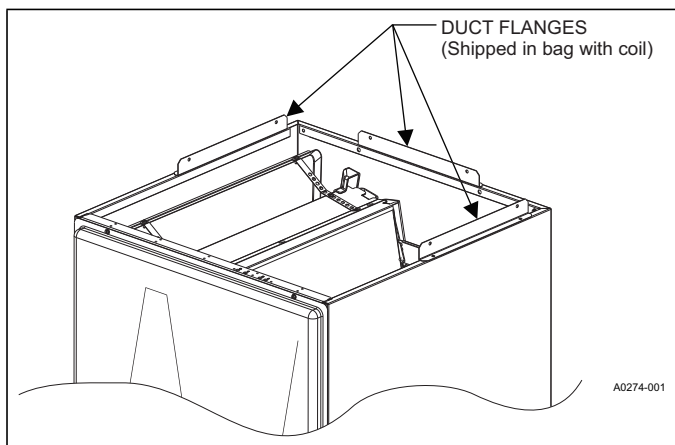
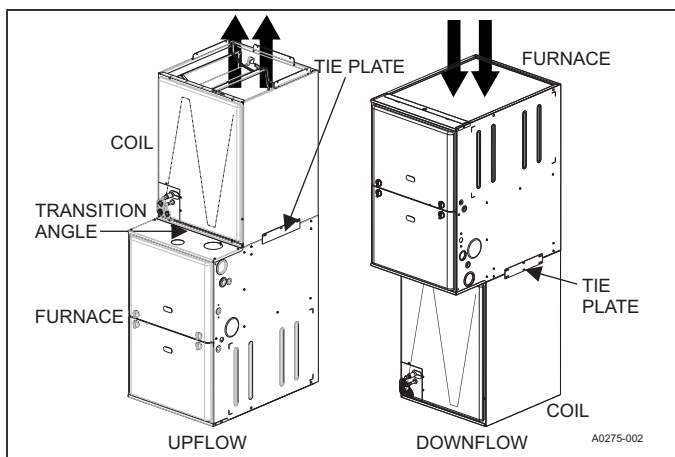

FIGURE 4: Duct Flanges - Coils CF / CM
FIGURE 5: Vertical Applications with Furnaces
Three duct flanges are provided to attach ductwork to the coil. The flanges are included in the parts bag along with three tie plates. Tie plates are used to secure the coil to the furnace or to the modular air handler as shown in Figures 5, 6, 8, 9, 11, & 12. Using the screws included in the parts bag, duct flanges are attached as shown in Figure 4 (to secure the duct to the coil). If the flanges are not used, they may be discarded.
1. Position the coil cabinet on the furnace or modular air handler opening (or the coil cabinet under the furnace or modular air handler opening for appropriate air flow) as shown in Figure 5 or 6.
4. Place the three duct flanges (from bag with coil) in mounting positions of the upper air flow opening on the coil, and secure with screws from the bag as shown in Figure 4.
4. Install the three duct flanges with screws (from bag with coil) in positions shown in Figure 4.